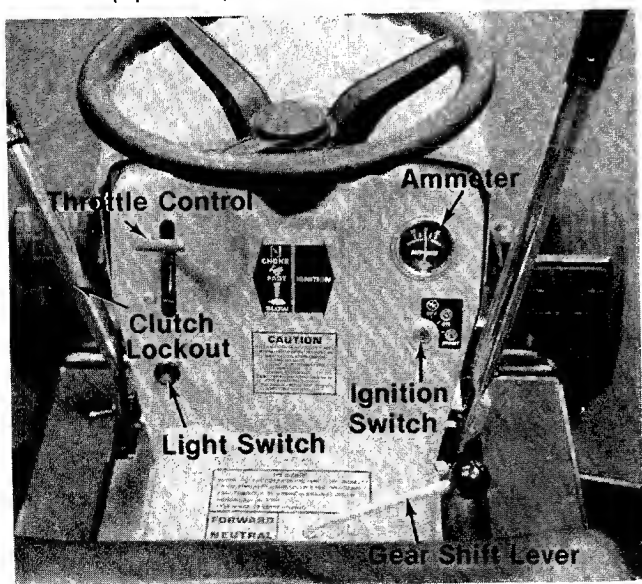

FIGURE 14.
a. **Throttle Control.** The throttle control is used to regulate the engine speed and choke the engine. The engine should be operated from  $\frac{3}{4}$  to full throttle when operating the cutting deck or snow thrower (optional). See figure 14.
b. **Gear Shift Lever.** The gear shift lever is used to shift into "FORWARD," "NEUTRAL" or "REVERSE." See figure 14.
h. **Ammeter.** The ammeter registers the rate of battery charge or discharge. The ammeter should register on the plus side (+) when the engine is running in the fast position until the battery is completely charged. With a fully charged battery or with the engine idling, the ammeter will not show a charge. See figure 14.
i. **Light Switch.** Push the light switch to turn on the lights. The lights will only operate when the engine is running. See figure 14.
Turn the key to the "START" position to start the engine. When the engine is running, let the key return to the "ON" position. To stop the engine, turn the key to the left to the "OFF" position and remove it to prevent accidental starting. See figure 14.
5. Set the throttle control in the "CHOKE" position. See figure 14.
6. Turn the ignition key to the "START" position. When the engine is running, let the key return to the "ON" position. See figures 14 and 20.